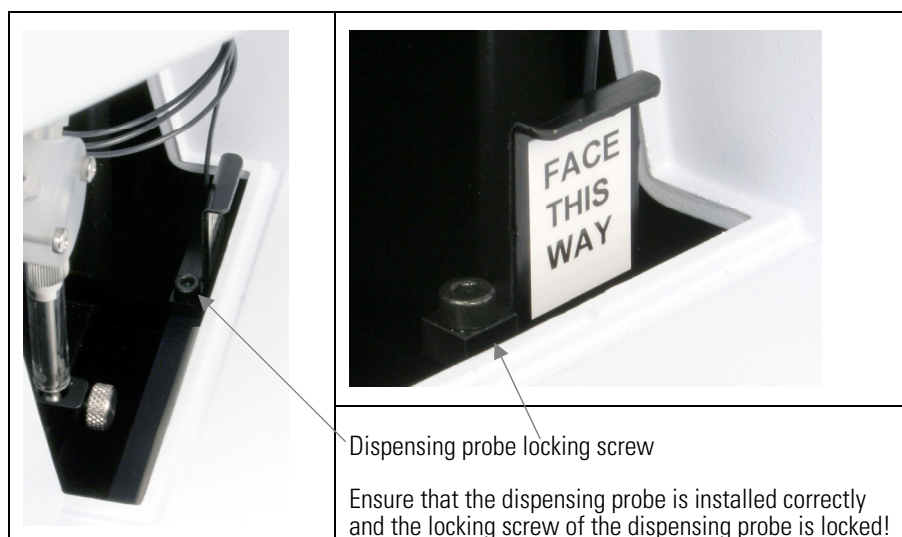

Figure 3-17. Locking screw of the dispensing probe fitted
4. Otherwise, fit the locking screw of the dispensing probe with the hexagonal screwdriver supplied (Figure 3-17).